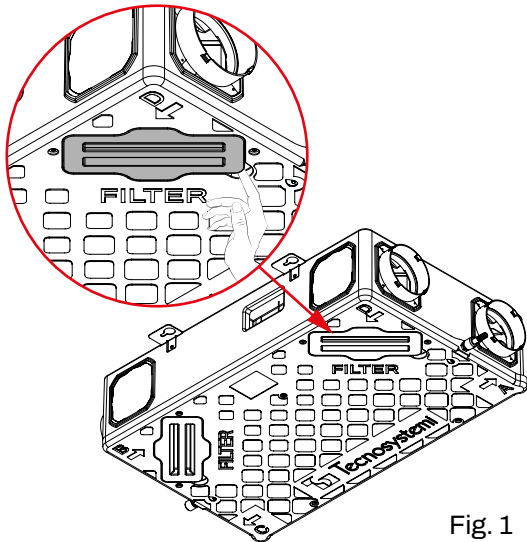

Fig. 1
1. Remove the protective filter covers (fig. 1).